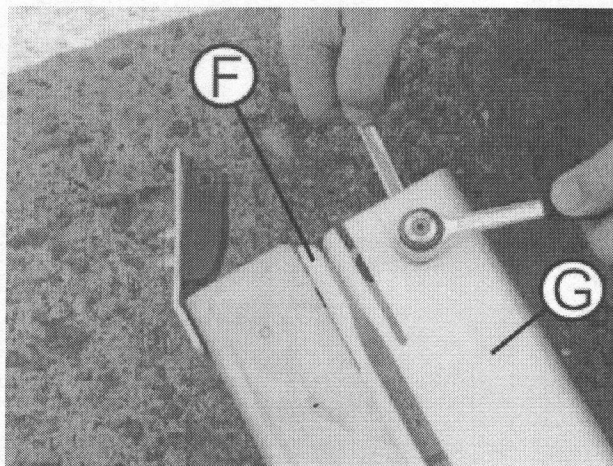

Fig. 043
9. Dismantle sliding blocks (F) and (G) (Fig. 043).
12. Mount sliding blocks on running wagon. Make sure that the screws of the sliding block (F) are secured with removable assembly adhesive (Fig. 043).